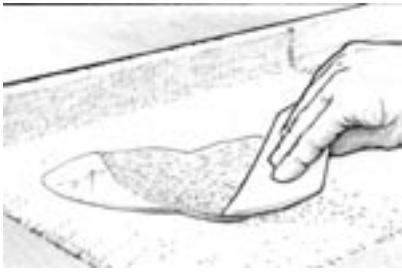

Figure 9-21 Spread the epoxy from the centre of the fabric toward the edges with a plastic spreader.
5. Spread the epoxy over the cloth surface with an 808 Plastic Squeegee, working the epoxy gently from the pool into the dry areas (Figure 9-21). Use a foam roller or brush to wet out fabric on vertical surfaces. As the fabric is wet out it becomes transparent, indicating the cloth has absorbed enough epoxy. The use of a paddle roller will help to ensure thorough wetting of the cloth. If applying cloth over a porous surface, ensure that sufficient epoxy is left to absorb into both the cloth and the surface below. Dry areas will be whiter and less transparent than a properly wet out area. Try to limit the amount of squeegeeing as excessive "work" on the wet surface produces minute air bubbles which are placed in suspension in the epoxy. This is especially important if a clear finish is required.